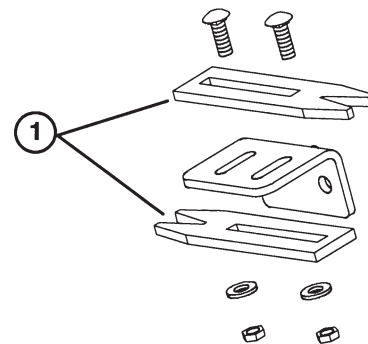

Figure 30
1. Loosen the lock nut securing the pulley scrapers to the mounting bracket (Fig. 30)